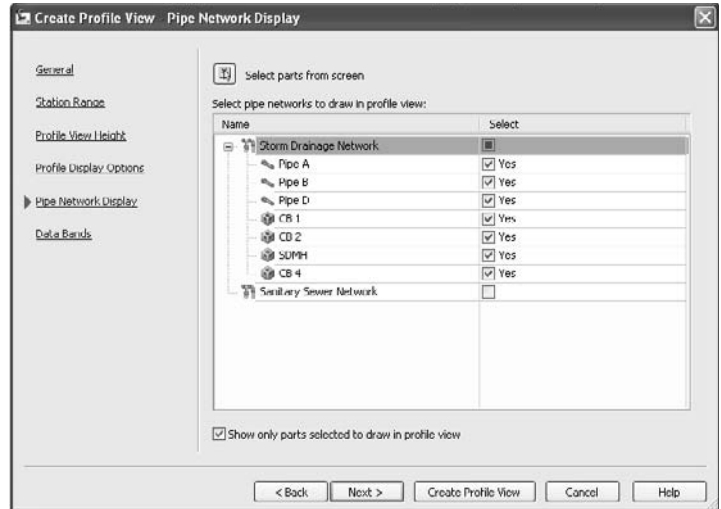

Figure 13.14
- In the Create Profile View dialog, click Next four times to land on the Pipe Network Display screen (see Figure 13.14). Confirm that all of the network elements listed in step 4 are checked in this list. Click the Create Profile View button.